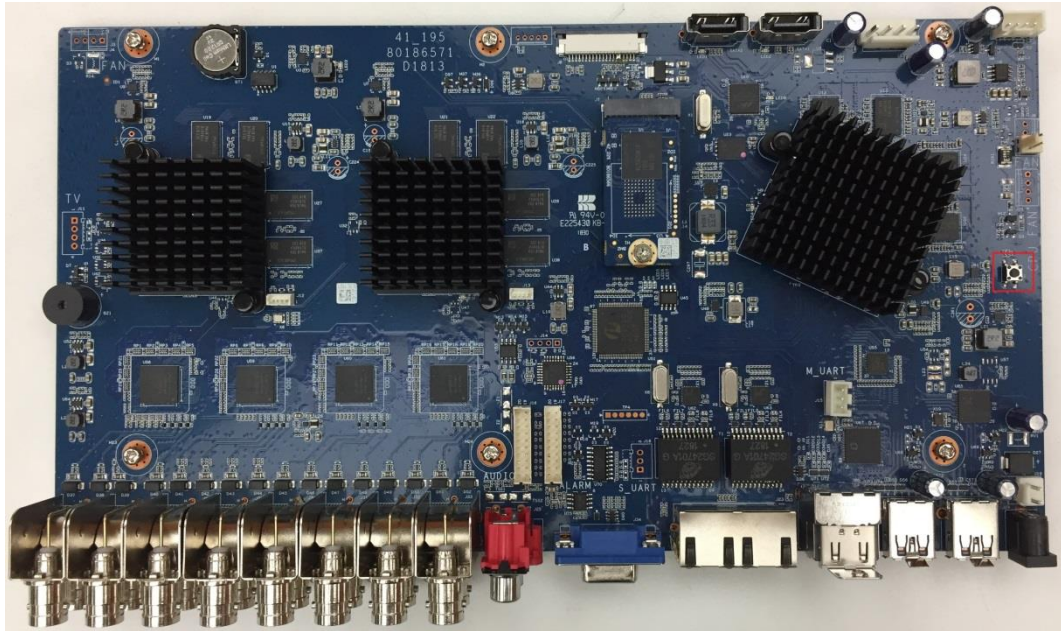

Figure 5-14
- Step 3** Press and hold the reset button for 5 seconds to 10 seconds. See Figure 5-14 for the location of the reset button.